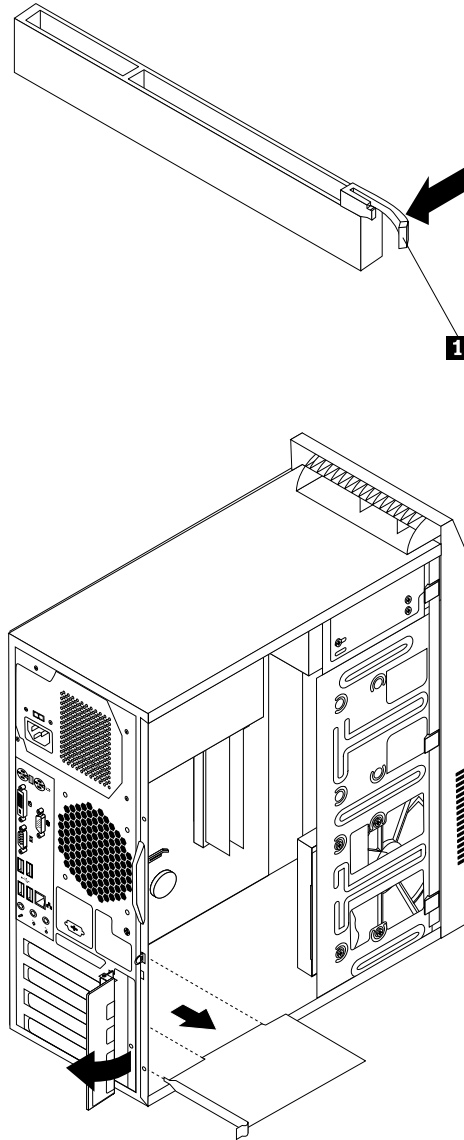

Figure 10. Removing the PCI card
- If you are replacing a PCI card, open the PCI card latch and remove the old PCI card that is currently installed as shown in Figure 10 “Removing the PCI card” on page 77.